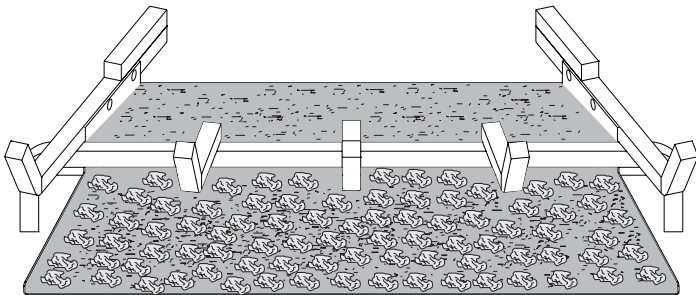

Figure 18
2. Spread the Glowing Embers over the bottom portion of the burner. See Figure 18.